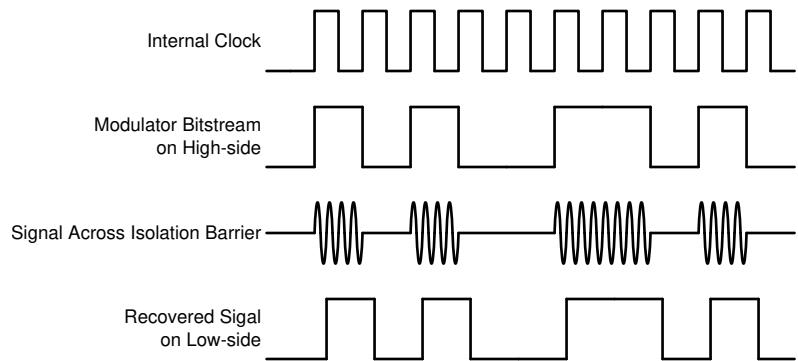

Figure 6-1. OOK-Based Modulation Scheme
The AMC3301 uses an on-off keying (OOK) modulation scheme, as shown in Figure 6-1, to transmit the modulator output bitstream across the capacitive SiO_2 -based isolation barrier. The transmit driver (TX) shown in the Functional Block Diagram transmits an internally generated, high-frequency carrier across the isolation barrier to represent a digital one and does not send a signal to represent a digital zero. The nominal frequency of the carrier used inside the AMC3301 is 480 MHz.